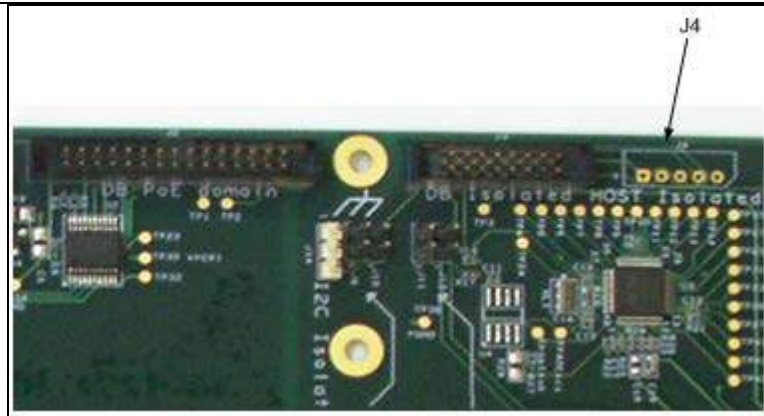

Figure 9: Isolated External Host
**5. Isolated External Host** (see Figure 9)